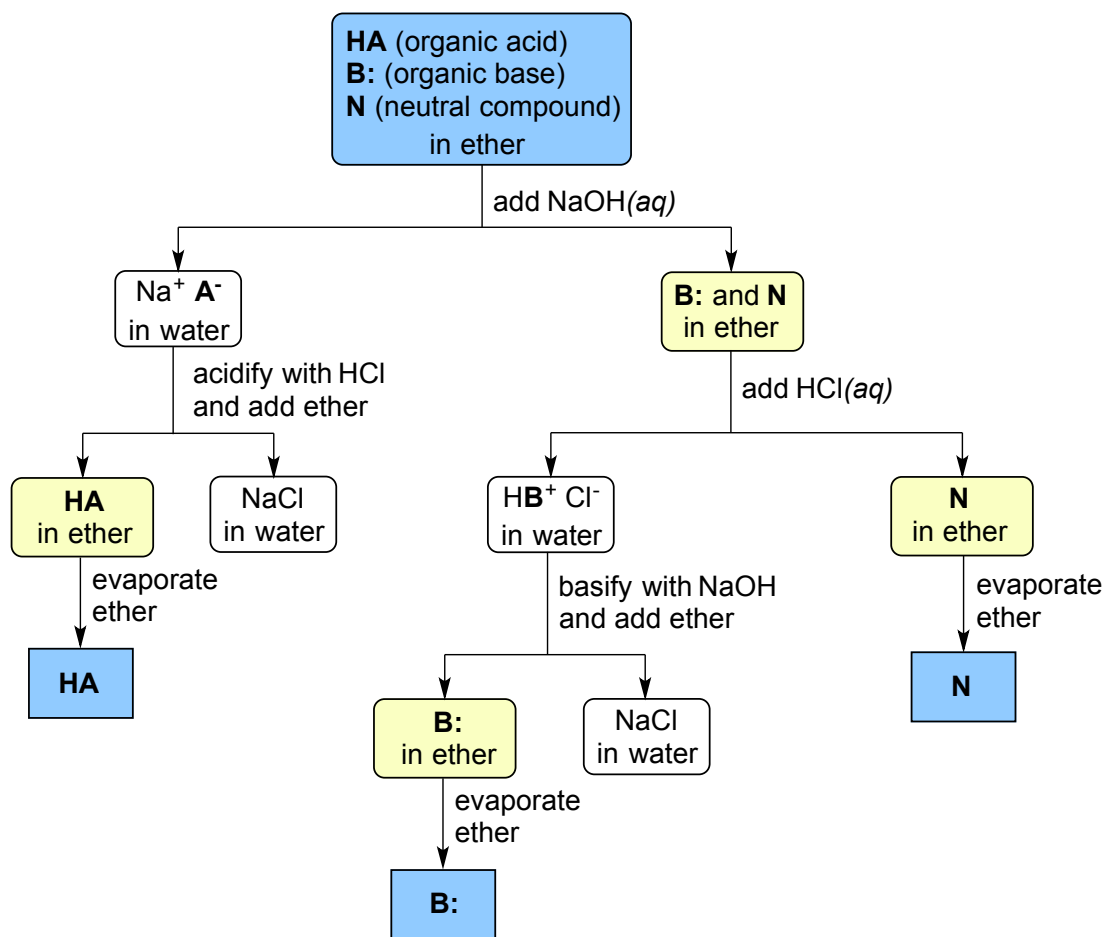

Figure 6. Extraction Flow Chart
Figure 6 details a full acid/base extraction flow chart that describes the separation of a mixture of an organic acid (HA), organic base (B:) and a neutral organic molecule (N).
1. Draw a diagram similar to that in figure 6 detailing the separation of 1,2-dichlorobenzene, phenol ($\text{pK}_a = 10$), and pyridine by an extraction protocol.